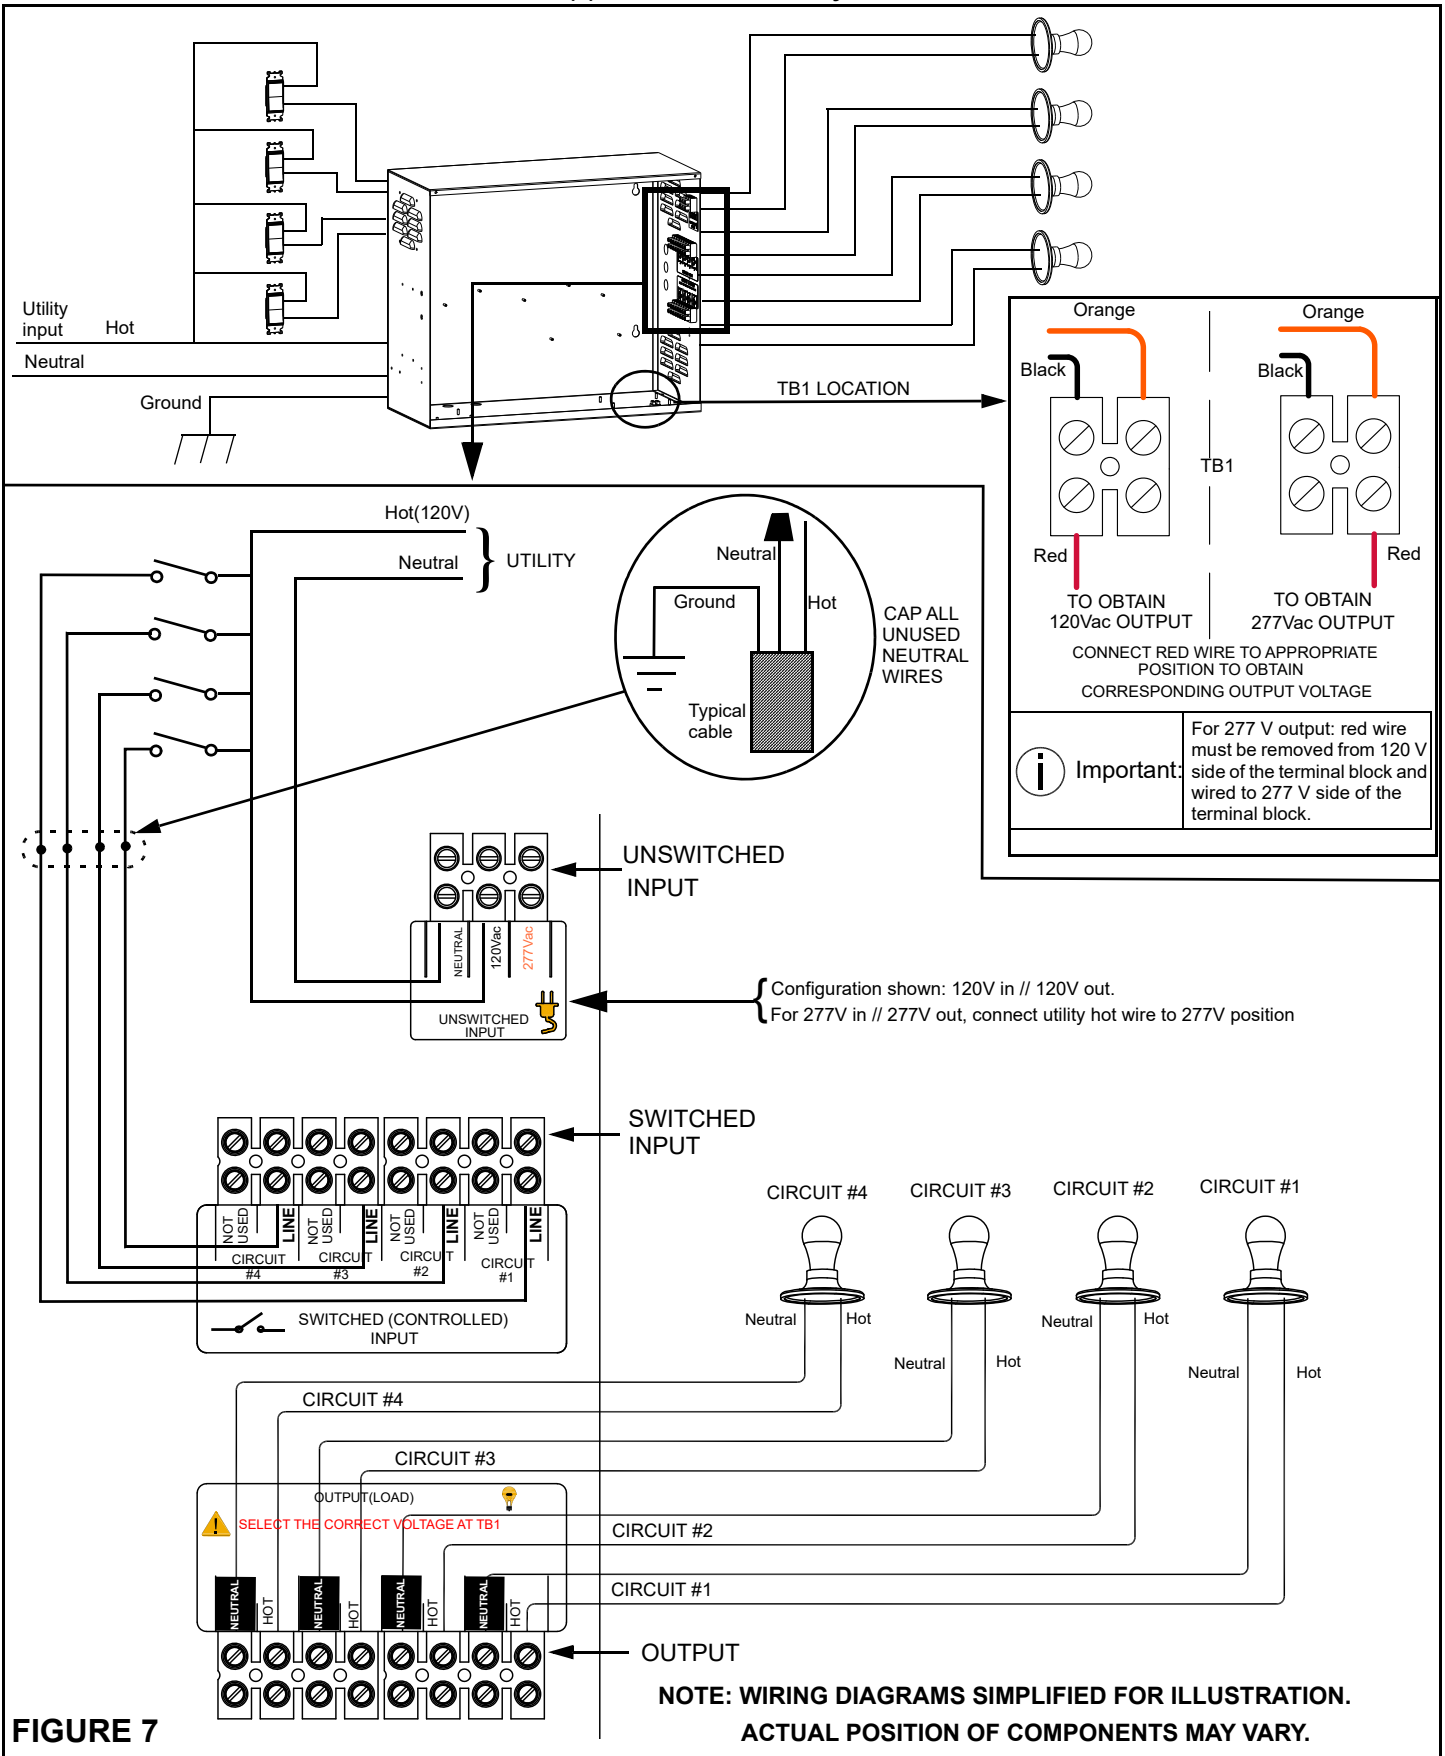

FIGURE 7
- c. **Switched Load Operation** (Refer to Figure 7 for wiring details) - Fixtures can be externally controlled and will illuminate upon loss of utility AC power regardless of the state of the external control device (switch, motion sensor, dimmer, etc.).